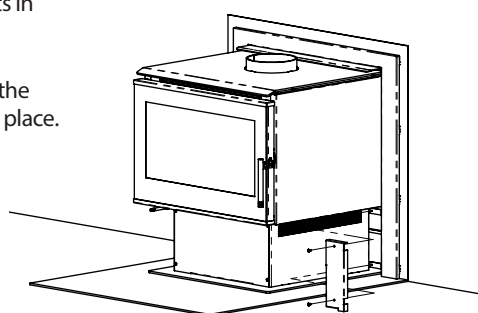

Figure 12
- Using the supplied M6 fasteners, secure the rear fascia fill panels and mount brackets in position, as per figures 12 & 13.